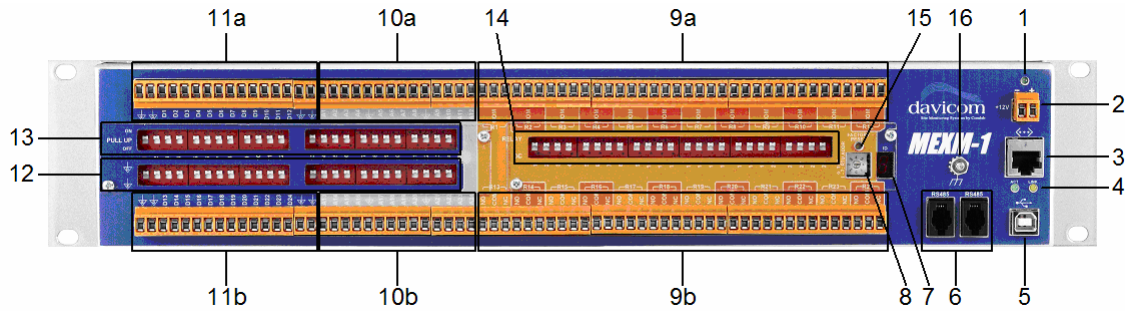

Figure 1 : Connectors on the MEXM-1 rear panel
The rear panel is divided into 4 sections (see figure 1). The blue section on the left is dedicated to the status inputs (Weidmuller terminals and DIP switches).
To configure a MEXM-1 in TCP mode, set the TCP/RTU communications mode selector switch in position 0 (line item 8 in figure 1). The default parameters for the MEXM-1 are shown in table 1.
To completely restore factory default parameters, press and hold the Factory Reset Button (item 15 in figure 1) until the 7-segment led display blinks 3 times.